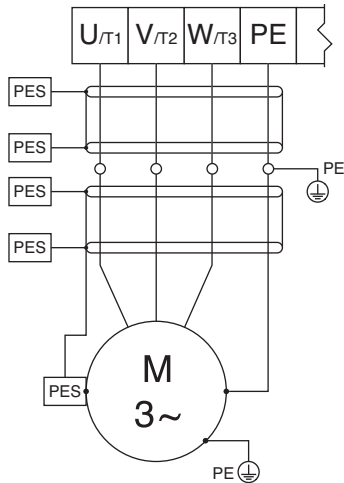

Figure 9 Wire Connections from the Motor to the VFD
5. Connect the wires from the motor terminals to the matching terminals in the VFD box, as shown in Fig. 9.